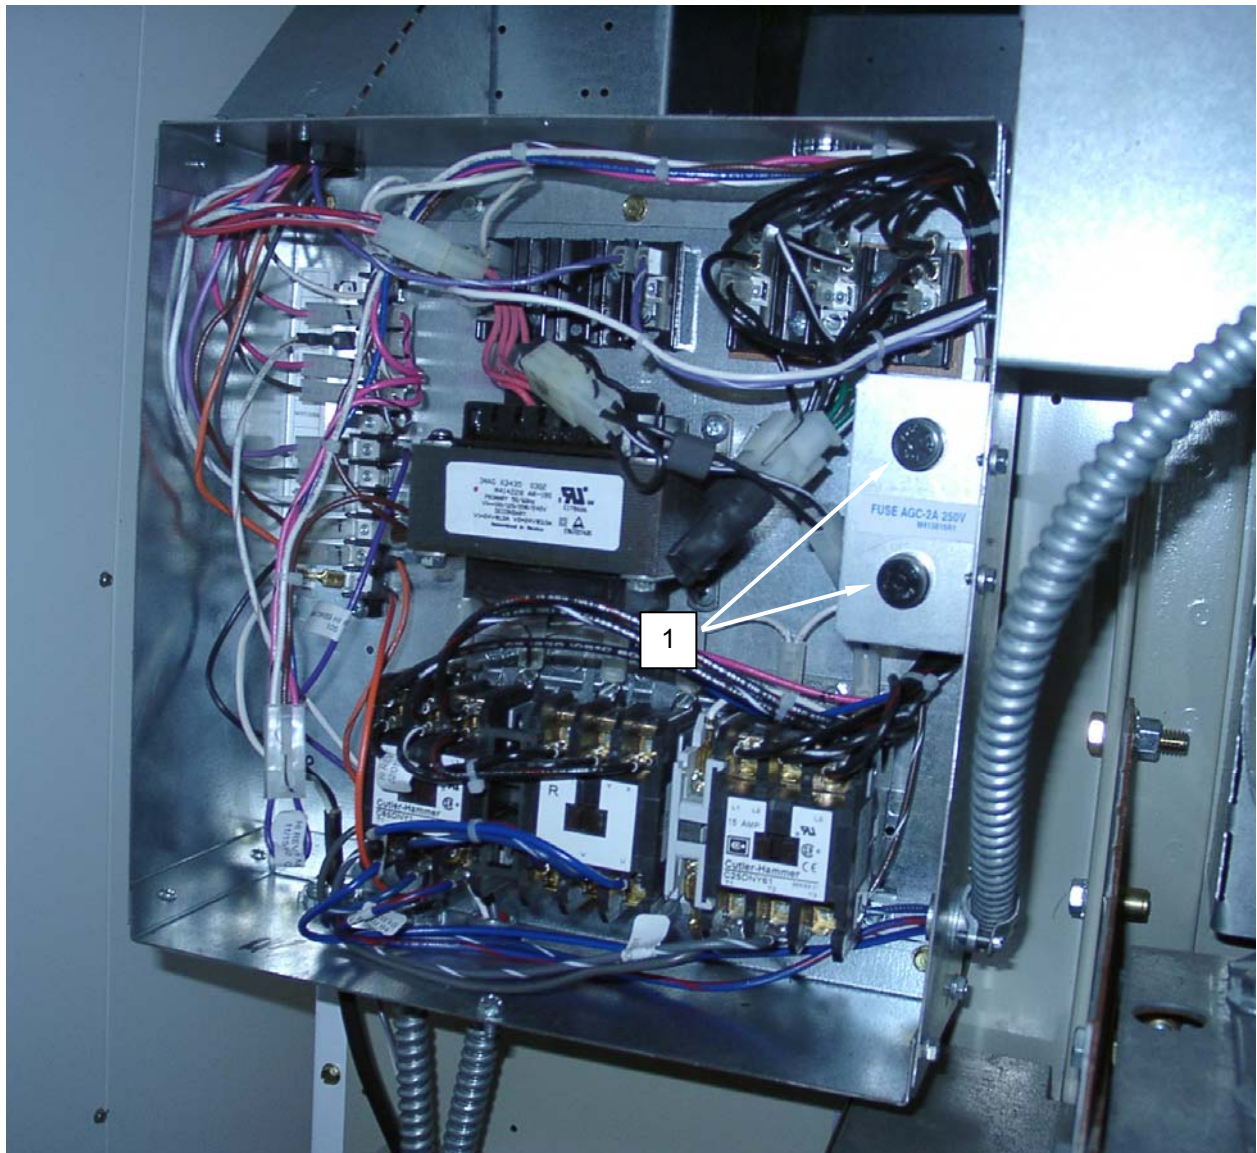

Figure 3. Replace the Dryer Transformer Fuses.
3. Unscrew fuse holder cap (**Figure 3, Item 1**).
4. Remove fuse from cap (**Figure 3, Item 1**).
5. Install replacement fuse into cap (**Figure 3, Item 1**).
6. Install cap (**Figure 3, Item 1**) with replacement fuse into fuse holder.